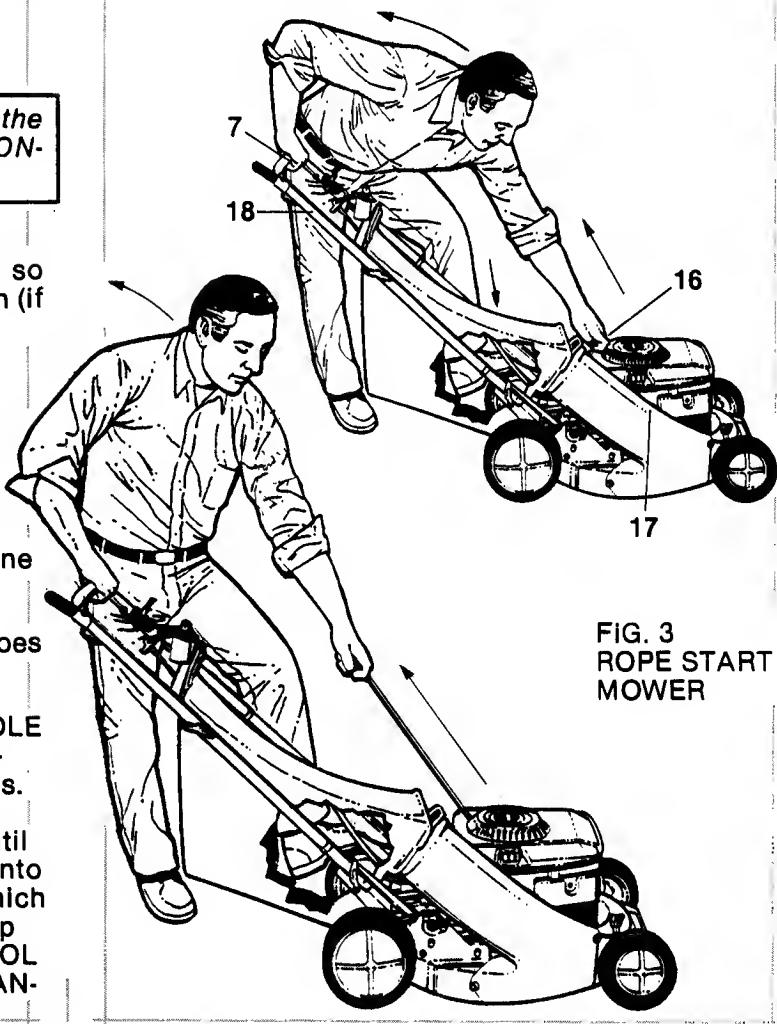

FIG. 3
2. Hold BLADE CONTROL (7) firmly against UPPER HANDLE (18) - otherwise the engine will not start! Refer to FIG. 3.
4. Bend at waist to reach ROPE START HANDLE (16) and straighten up as you pull handle - using back muscles more than arm muscles.